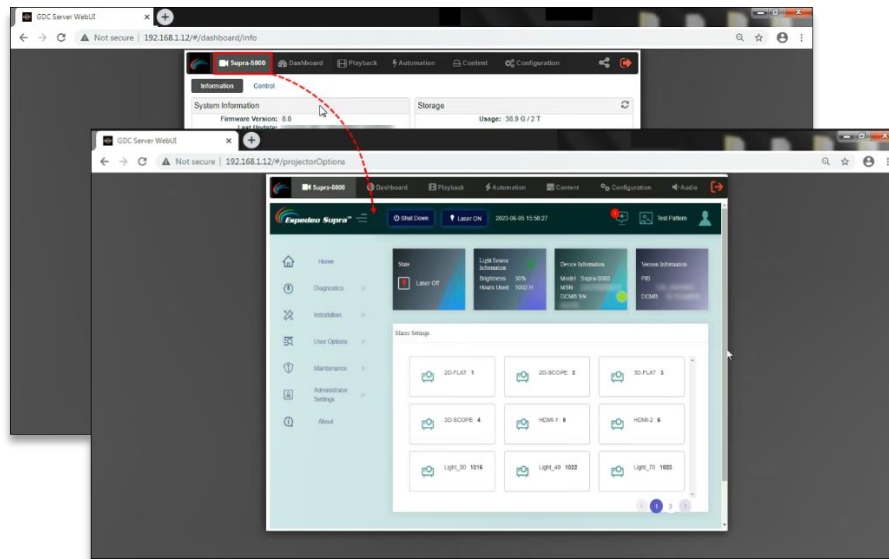

Figure 18: Accessing Supra Command Center when Single tab mode is enabled
- a. When the **Single tab mode** option is enabled; you can access the Supra Command Center web interface within the DCMB Web UI, by clicking on the **'Supra-5000'** tab (as shown in **Figure 18**).